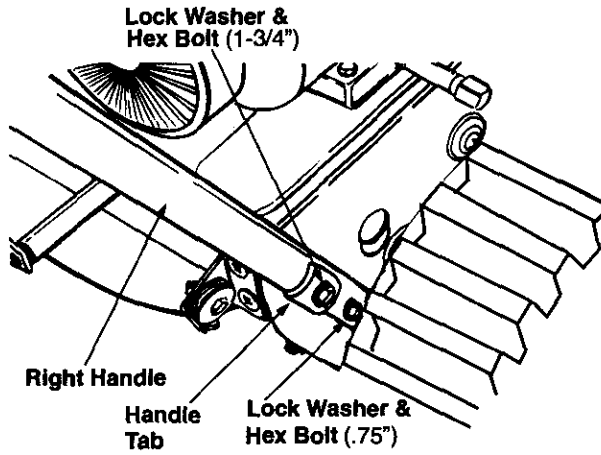

Figure 2
- Secure bottom hole on the handle to the snow thrower using 5/16 x .75" hex bolt and lock washer from the hardware pack (group A on page 5 ). Do not tighten at this time. See Figure 2.
- Place a handle tab, included in the hardware pack (group A ), over the upper hole in handle so that the contour of the handle tab matches that of the handle. See Figure 2.